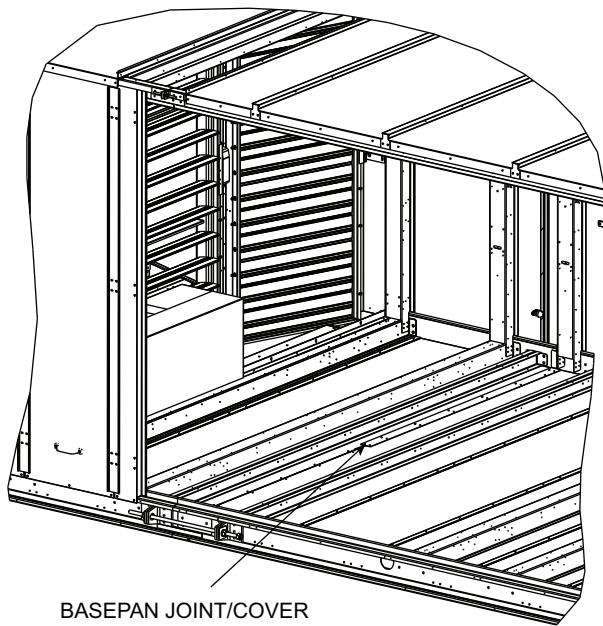

Fig. 41 — Basepan Joint/Cover
12. Place seal strip along both sides of basepan joint. Attach basepan covers to basepan joint. See Fig. 41.